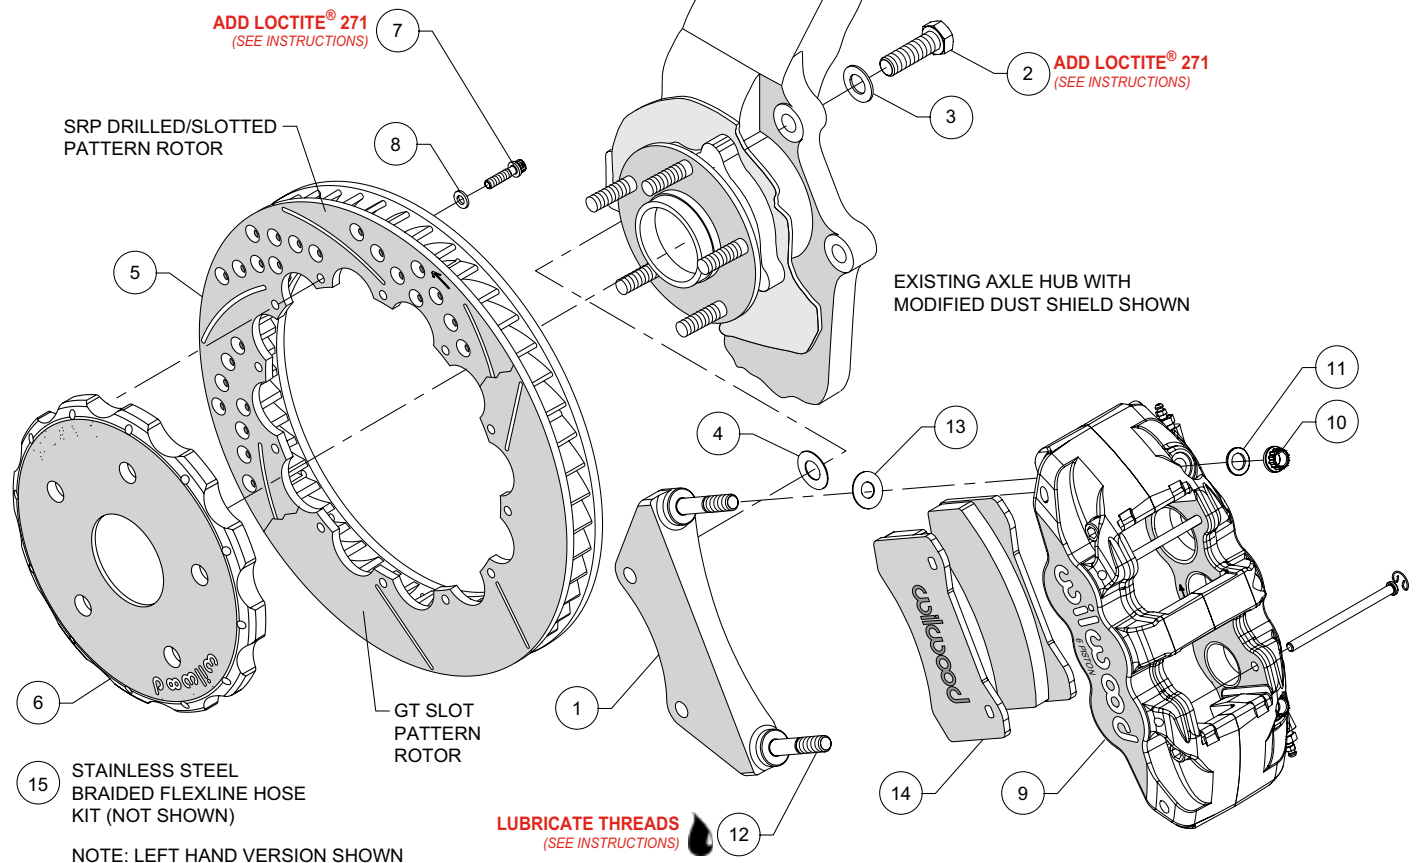
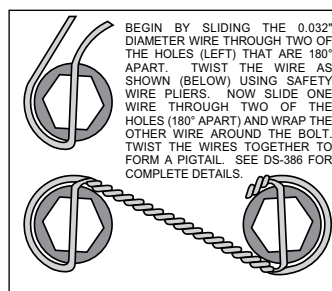

Figure 1. Typical Installation Configuration
Figure 3. Safety Wire Diagram
Assembly Instructions (numbers in parenthesis refer to the parts list and Figure 1 on the preceding pages):
- The caliper mount bracket (1) should initially be installed with clean, dry threads on the mounting bolts. Orient the bracket as shown in Figure 1 and Photo 2, and install using bolts (2) and washers (3). Initially place one .029 thick shim (4) on each bolt between the bracket and upright, Figure 1. Temporarily tighten the mounting bolts. **NOTE:** The bracket must fit squarely against the mounting points on the upright. Inspect for interference from casting irregularities, machining ridges, burrs, etc. Later, after the caliper alignment has been checked, the mount bolts will be secured using red *Loctite*® 271.
- Orient the rotor (5) and the hat (6) as shown in Figure 1 and Photo 3. Attach rotor to hat using bolts (7) and washers (8). Apply red *Loctite*® 271 to the bolt threads and torque to 155 in-lb using a criss-cross pattern. For an added measure of security, the bolts may be safety wired using standard 0.032 inch diameter stainless steel safety wire as shown in Figure 3. Please refer to Wilwood's data sheet DS-386 (available at www.wilwood.com/Pdf/DataSheets/ds386.pdf) for complete safety wire installation instructions.
- NOTE:** This kit contains distinct right and left hand calipers that must be mounted in a specific direction, as described below. Lubricate the caliper mounting studs (12) with lightweight oil. Initially place one .030" thick shim (13) on each stud between the caliper and the bracket, as shown in Figure 1 and Photo 4. Mount the caliper (9) onto the bracket (1) using lock nuts (10) and washers (11), Figure 1. Ensure that the caliper is mounted so the largest pistons are at the rotor exit end of the caliper, in relation to the direction of rotor rotation. Temporarily tighten the lock nuts and view the rotor through the top opening of the caliper. The rotor should be centered in the caliper, Photo 5. If not, adjust by adding or subtracting shims (4) between the bracket and the upright. Always use the same amount of shims on each of the two mounting bolts. Once the caliper alignment is correct, remove the bracket mounting bolts (2) one at a time, apply red *Loctite*® 271 to the threads, and torque to 105 ft-lbs.
- Remove the two pad retaining pins from the caliper (9) by carefully popping out the pin retaining clips and sliding out the pins. Insert the brake pads (14) into the caliper from the bottom, Figure 1 and Photo 6. With the friction material facing the rotor, secure the brake pads in place with the pad retaining pins and clips, Photo 7. Reinstall the caliper (9) onto the caliper mounting bracket (1) and temporarily tighten the lock nuts (10). Check that the top of the brake pad is flush with the outside diameter of the rotor, Photo 8. If not, adjust by adding or subtracting shims (13) between the caliper and the bracket. After the caliper pad height is set, torque the caliper lock nuts (10) to 47 ft-lb.